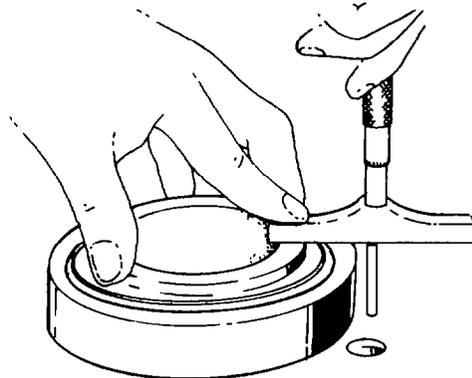

Fig. 305 — Measuring Bearing for Shimming
d. Temporarily install the rear bearing cone into the cup, apply pressure to the cone with your hand, and using a depth micrometer, measure and record the distance from the top of the bearing cone to the flange surface of the housing. Remove the bearing cone (see fig. 305).